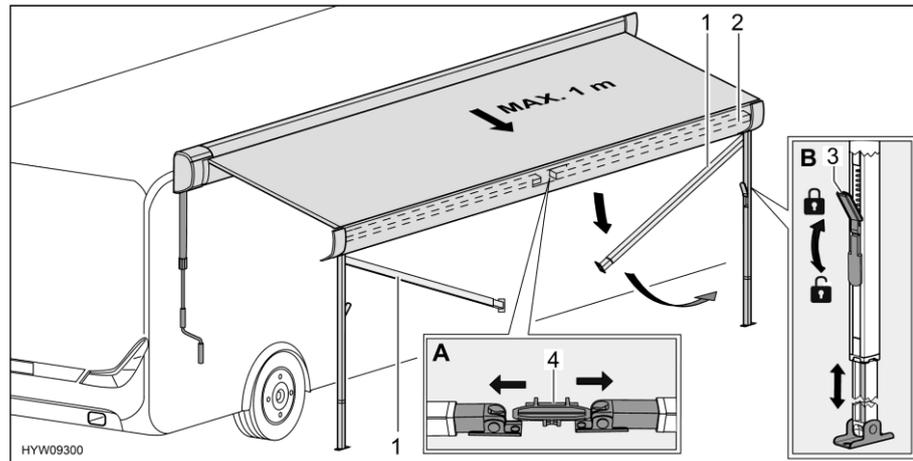

Fig. 15 Preparing support legs
- Release support legs (Fig. 15,1) from holder (Fig. 15,4) in the front bar (Fig. 15,2). In order to do this, apply slight outward pressure on the support legs (Fig. 15,A).
- Release the locks (Fig. 15,3) of the support legs. In order to do this, fold the catch lever downwards.
- Pull lower part of the support legs out to the desired length (Fig. 15,B).
- Close the locks (Fig. 15,3) of the support legs. In order to do this, fold the catch lever upwards.